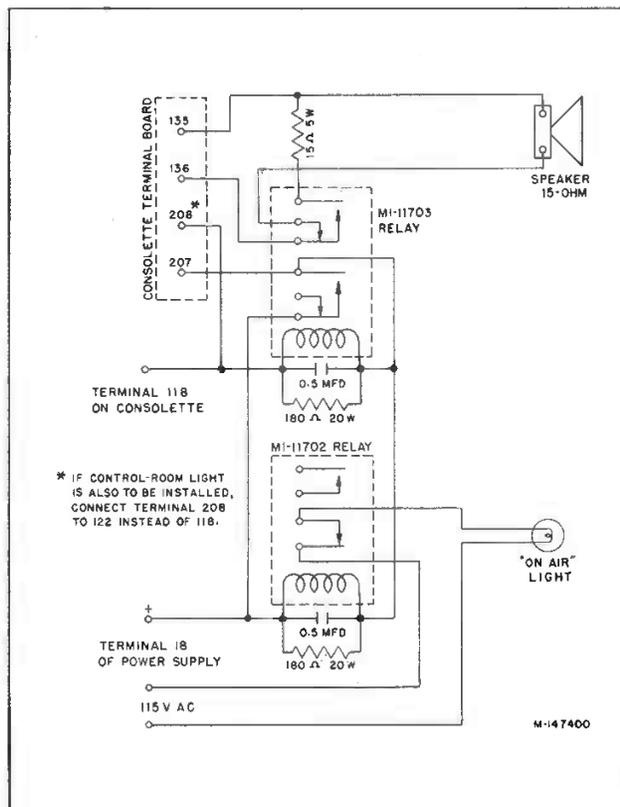

Figure 15 — Announce-Booth Relay Connection
(3) Connect the relays and lights to the console as shown in figure 15. If the control-room light is not to be installed, connect terminal 208 to terminal 118. If the control-room light is to be installed, connect terminal 208 to 122.